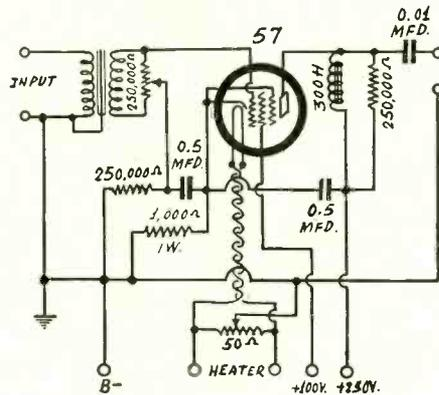

FIG. 1
**T**HE 57 TUBE can be used as a high-gain audio amplifier with satisfactory results, and a suitable circuit is shown in Fig. 1. Consistent with high gain we have an audio-frequency input transformer ahead of the circuit. The fact that one side of the primary is grounded suggests that the amplifier is to be used for a microphone, a phonograph pick-up, or, perhaps, a detector coupled with choke and condenser to the transformer. Of course, if the primary of the transformer is to be connected to the B supply it is only necessary to cut the ground line and connect the primary to the proper high voltage.